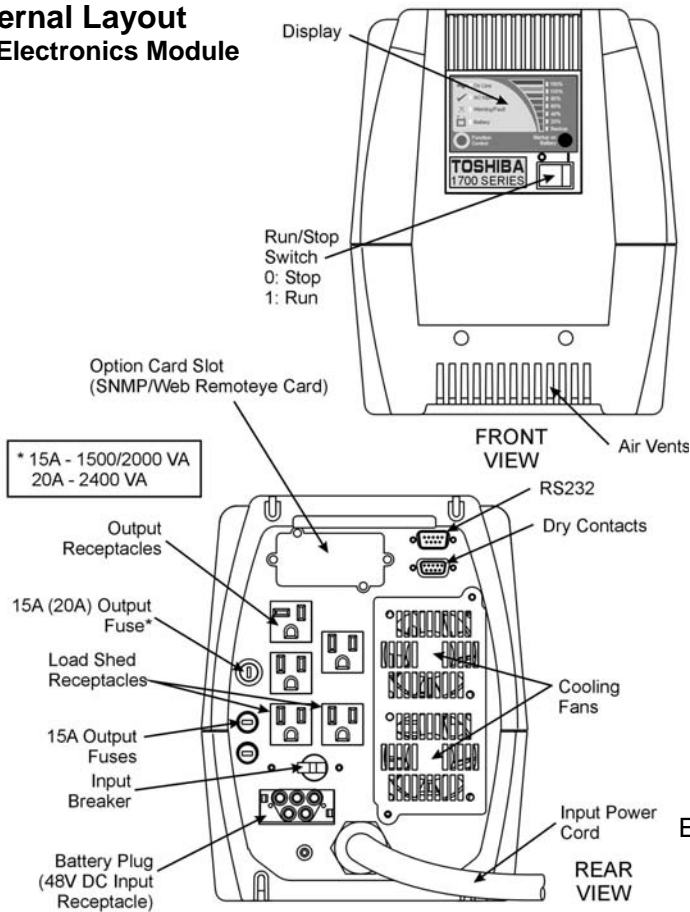

Figure 1
Step 4: Switch the input breaker to the on position (figure 1, page 9). Please note that a battery fault will occur.
Once the modules have been connected as shown in the preceding section (UPS Connections, page 10) the UPS system is ready to be started. There are two ways to start the system: from AC input power (if present) or from batteries. If not already done, switch the input breaker on (figure 1, page 9). If the "AC Input" LED is lit, proceed on to "Starting when AC power is available". If the LED is not lit, there is no AC power available. If the unit is to be started when AC power is not available proceed to "Starting on DC power."
Step 1: Make sure the RUN/STOP switch is in the STOP position. If the UPS is being started on DC power because the AC power is out of range, the input breaker must be in the OFF position (figure 1, page 9).
Option 2: The other option is to turn the UPS off completely. This means that in addition to the UPS's inverter shutting down, **all power will be stopped to any equipment attached to the UPS.** To shut the UPS down completely switch the RUN/STOP switch to the STOP position. Then switch the input breaker off (figure 1, page 9). Once the input breaker has been switched off, all the LEDs should turn off. (If the RUN/STOP switch is in the RUN position when the input breaker is switched off, the unit will switch to battery backup mode. The unit will continue to run for as long as the available battery reserves can support the connected loads.)
The 1700 Series includes a load shed function. During battery backup operation, this function allows the load connected to two of the receptacles (figure 1, page 9) to be turned off in an effort to conserve power for more critical loads. The battery level at which these two receptacles will be turned off, or “shed”, can be set by the user (see “The Function Control Button”, page 17). By default, this feature is configured so that these two receptacles will remain on for the full battery backup time available (no “shedding”)